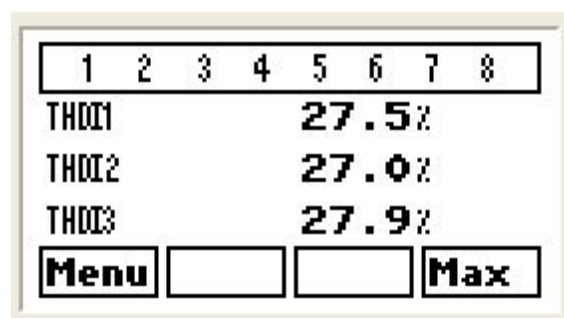

Fig. 112.- Display of THDV or THDI
- The screens that display the current and voltage THD (Fig.112) show the **Max** option, which can be used to display the maximum THD values recorded. The date and time when the maximum value was produced can also be displayed with the **Date** and **Time** dynamic keys